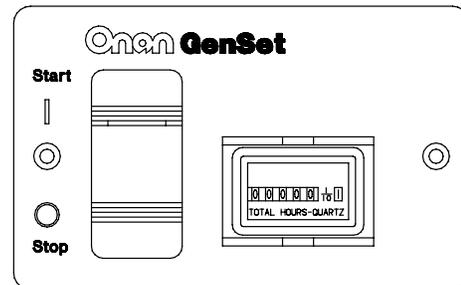

FIGURE 13. REMOTE SWITCH / HOUR METER
- Remote start/stop switch with indicator lamp and hour meter (Figure 13).